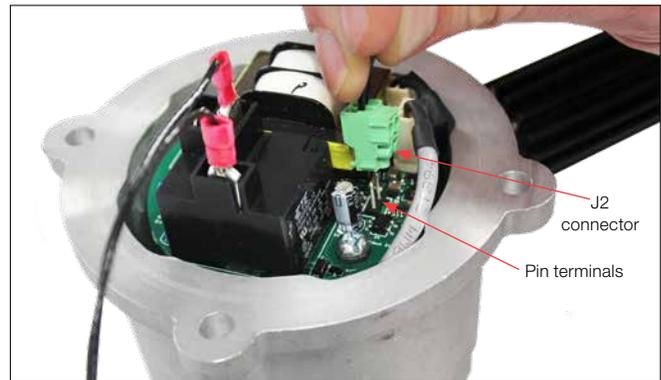

Figure 4
3. For 24V power supply a J2 type connector is supplied. Install J2 connector as shown. Remove J4 connector if necessary. See Figure 4.